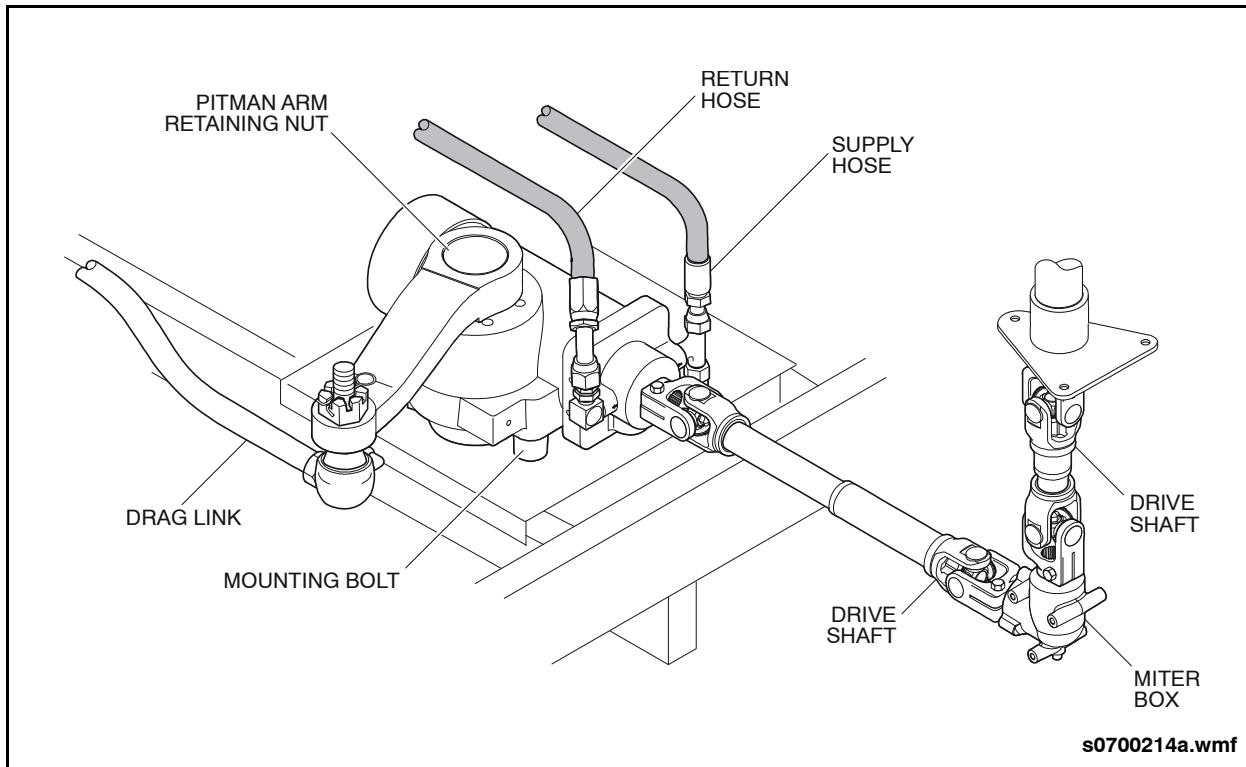

Fig. PM-6: Steering Gear Inspection
- Visually inspect all steering components for any evidence of damage. See "Fig. PM-6: Steering Gear Inspection" on page 30.